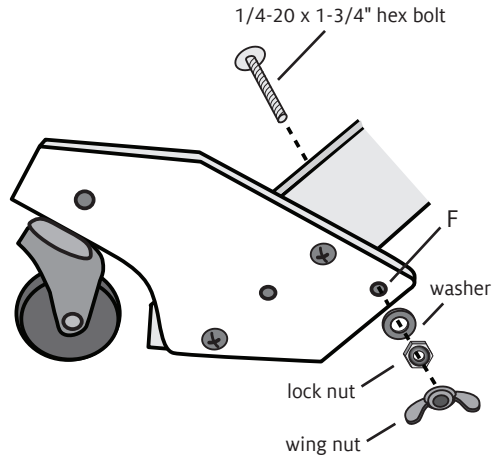

FIGURE 8: STROLLER BAR AND FRONT CASTER BLOCK
6. Attach the hex bolt to hold the front of the stroller bar: From the inside of the loom, insert a 1/4-20 x 1-3/4" hex bolt through hole [F] in the front caster block. Secure with a 1/4" washer and a 1/4-20 lock nut. Place a 1/4-20 wing nut on the bolt (Figure 8). Repeat for the other front caster block.